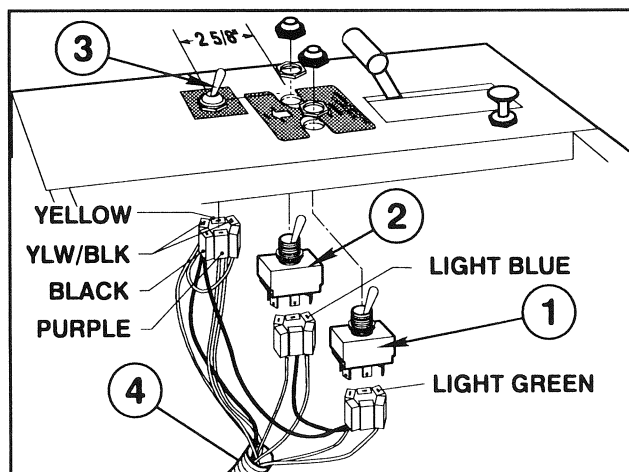

FIG. 9
8. Install two (2) Boom Switches (included in Boom Lift Kit) and Sonic Boom™ Mode Switch (1/2" DIA. hole required). Install Decals, and connect Wiring Harness. See FIG. 9